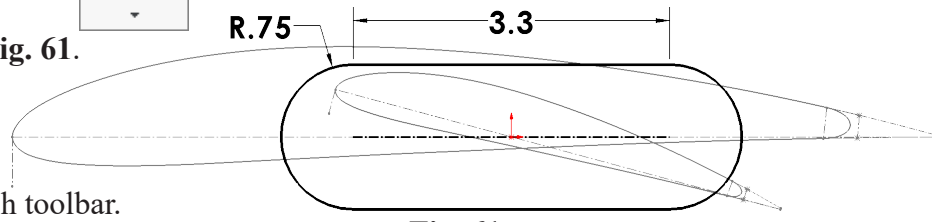

**Fig. 60**
Step 3. Sketch a Center Straight slot at the **Origin** , **Fig. 60**. To sketch slot, click Origin for start point of slot. Move cursor to right to cord line in Sketch1 for length of the slot and then click. Move cursor down for width of slot and click.